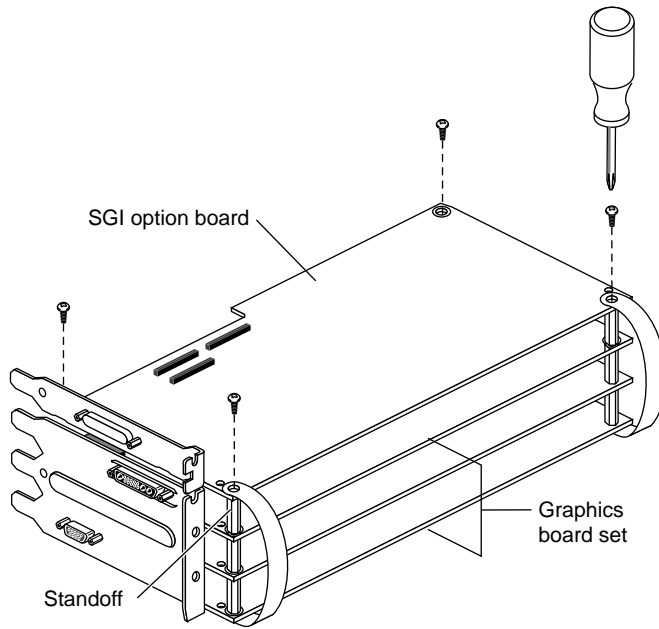

Figure 5-19 Removing Standoff Screws
3. Unscrew the corner standoff screws from the top four corners. See Figure 5-19. If the standoff beneath the screw spins, hold it steady with the standoff wrench.